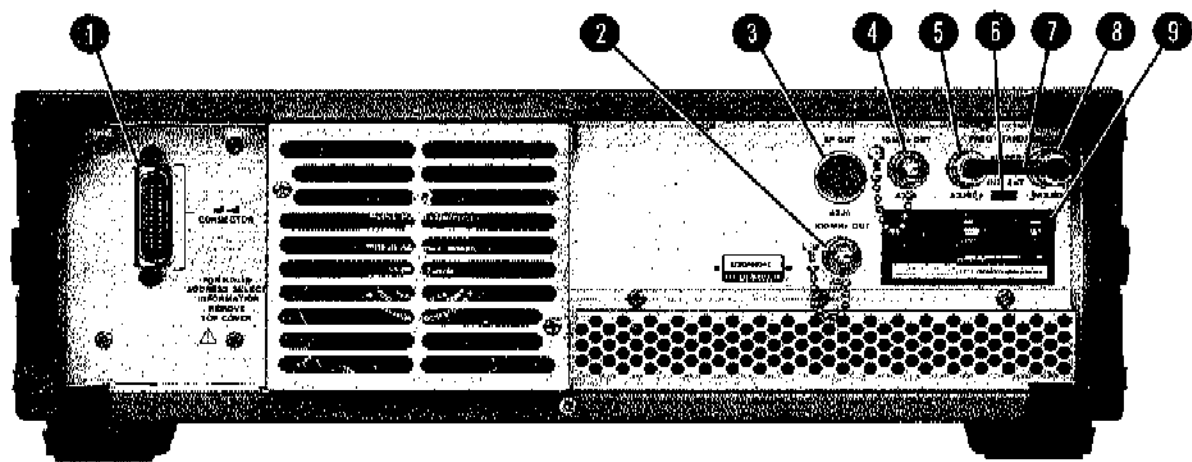

Figure 3-2. Rear Panel Connectors, Switches, and Displays
3-7. The only maintenance the operator should normally perform is the replacement of the primary power fuse (F1) located in the Line Power Module Assembly ⑨ (A3A11) shown in Figure 3-2 and the mechanical zero adjustment ⑫ of the meter shown in Figure 3-1. For instructions on how to change the fuse, refer to Section II, Line Voltage Selection.
- INTERNAL REF OFF:** when lit, indicates when the rear panel INT-EXT switch **27** (see Figure 3-2) is in the EXT position.
- PRESET key (3 GHz):** sets frequency to 3 GHz and extinguishes the Frequency Resolution Light Bars **8**.
1. Check that the LINE switch **12** is in STANDBY and remove the power cable from the Line Power Module **9** (see Figure 3-2).
2. Check that Line Power Module **9** (see Figure 3-2) is set to the nominal line voltage to be used and that the fuse is the correct value and type.
1. On the rear panel (see Figure 3-2), remove Jumper ① (A3W3) from the FREQ STANDARD EXT connector ⑧ (A3J10), and set the FREQ STANDARD INT/EXT switch ⑥ to EXT.
2. Connect an external frequency standard of 5 or 10 MHz, 0 dBm (nominal) into 50 ohms impedance to the FREQ STANDARD EXT connector ⑧.
3. Set the LINE ⑫ switch to ON and the RF switch ⑳ to ON.